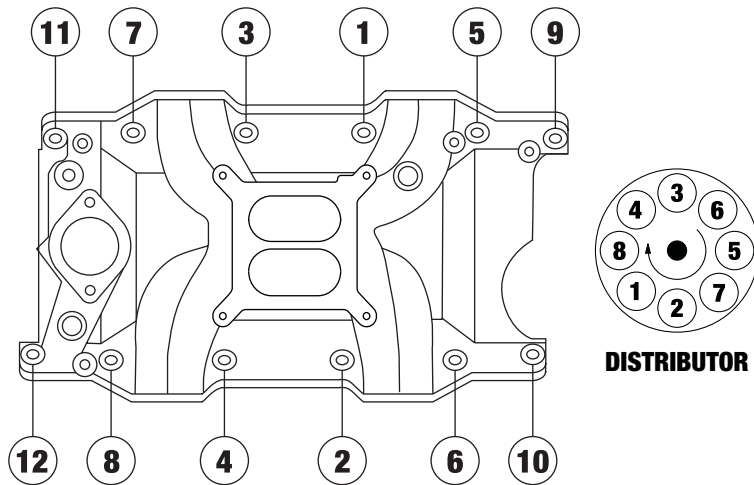

Figure 1 - 318-360 c.i.d. Chrysler Intake Manifold Bolt Tightening Sequence and Firing Order
5. Torque all of the manifold bolts in two steps by the sequence shown in **Figure 1** to 25 ft./lbs.